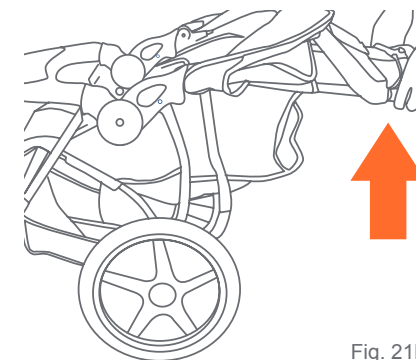

Fig. 21b
- Lift up on the stroller handle with both hands until the stroller frame is locked in the open position (Fig. 21b). The stroller has spring-loaded latches on both sides of the frame. Test that both latches are fully engaged prior to placing child in the stroller.